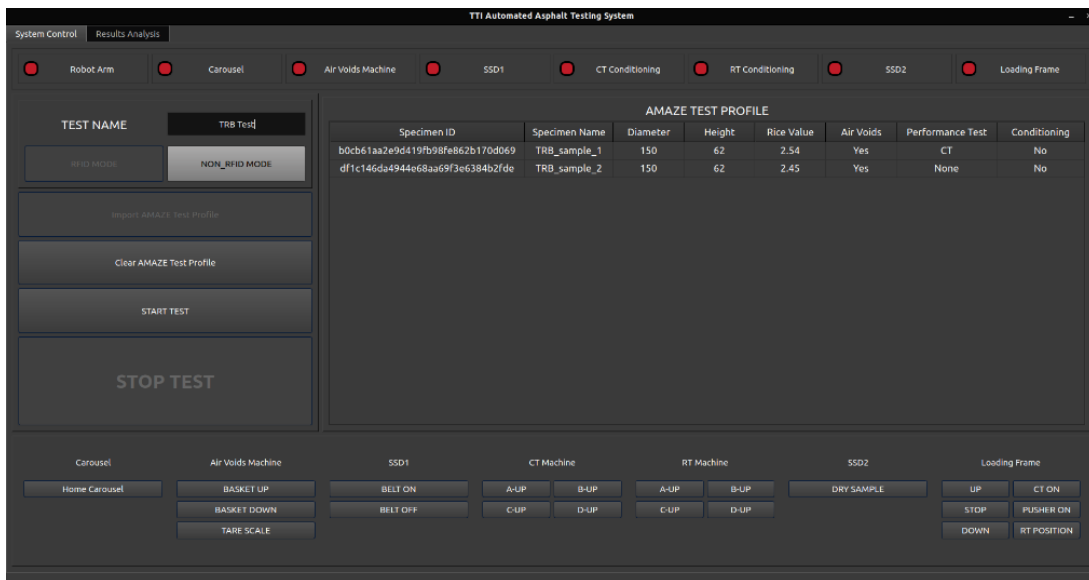

Figure 25. Screen for Assigning a Test Name
3. **Assign a Name to the Test.** Assign a unique and identifiable name to the test. This step is crucial for record-keeping and future reference. Figure 25 shows the GUI after adding a test name.